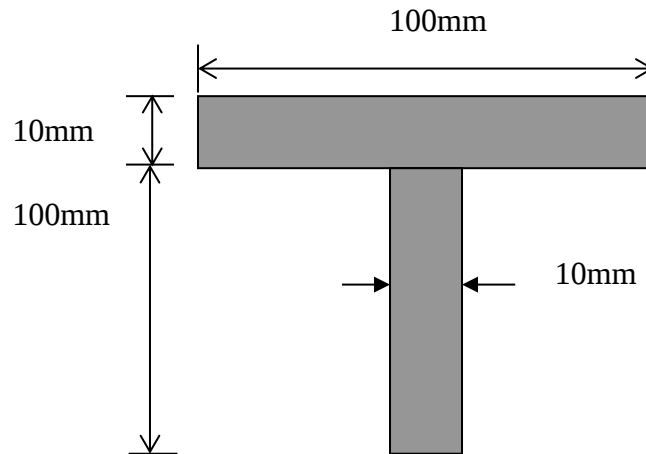

Figure 3(c) / Rajah 3(c)
- (c) Figure 3(c) shows T-beam section of 5 m long. The column carries 800 kN of load. Given $e = 5 \text{ mm}$, $I_{yy} = 841.66 \times 10^3 \text{ mm}^4$. Determine load critical if both ends are hinged.